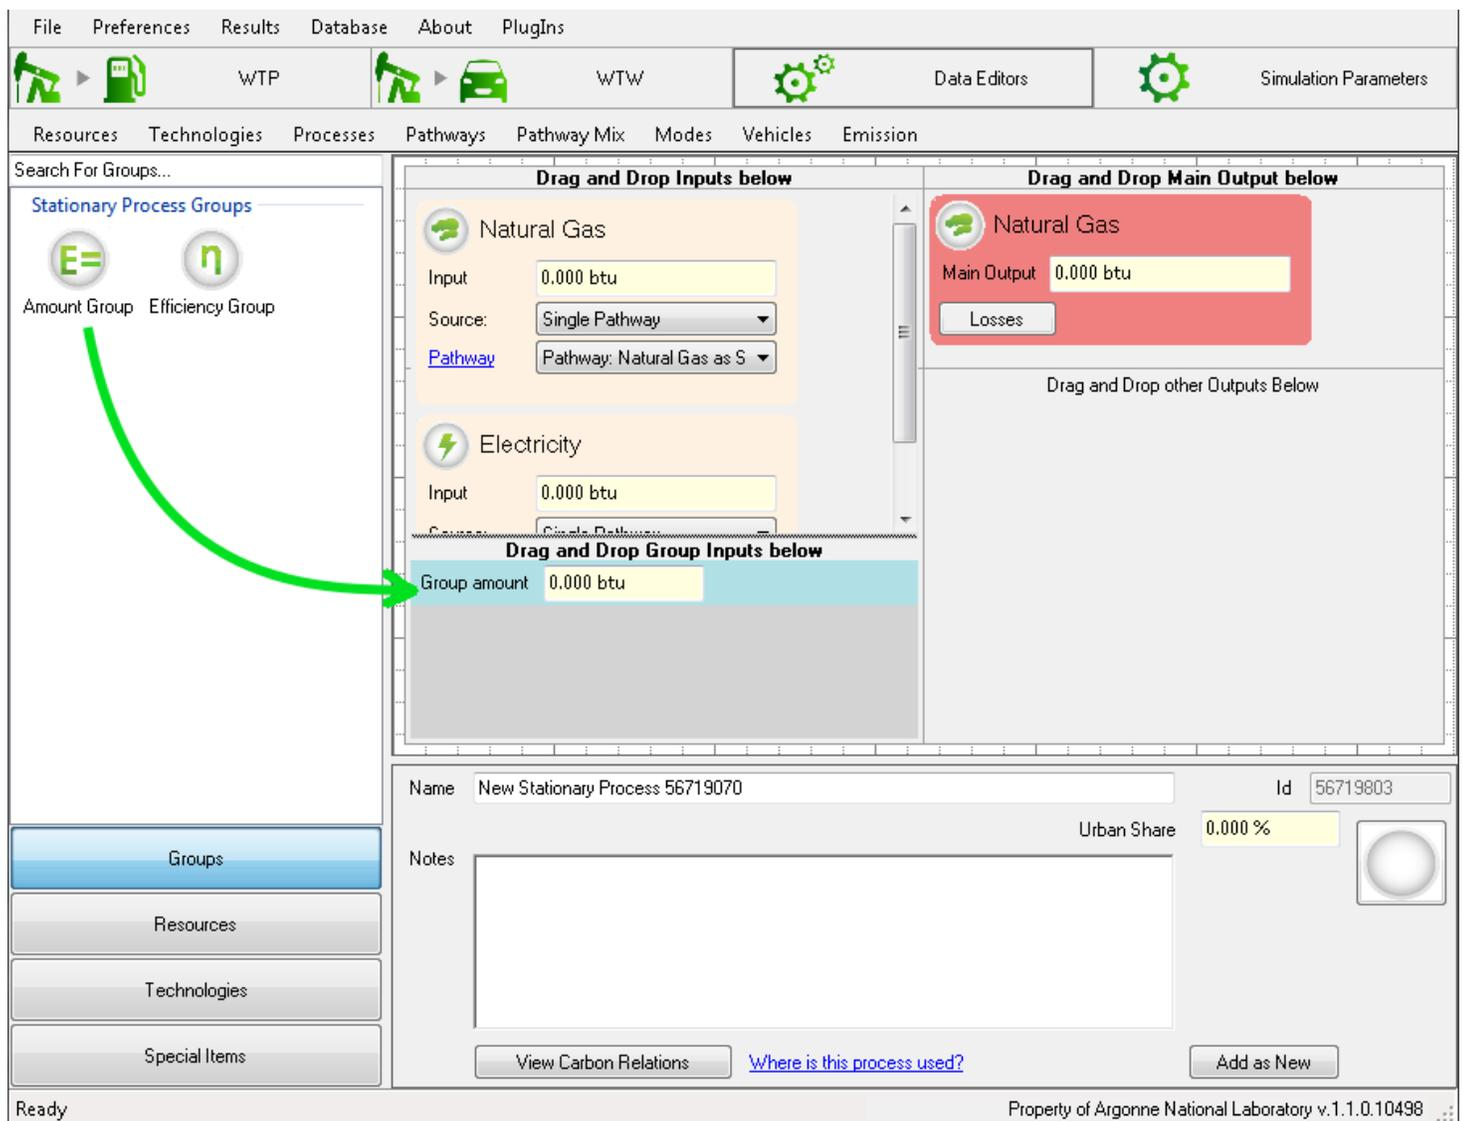

Figure 39: Drag and Drop an Amount Group
- The second way is to create a group and place one or more inputs into that group and assigning them a share, Review Figure 39.
**NOTE:** Figures 39 shows what is needed to add inputs to a group.